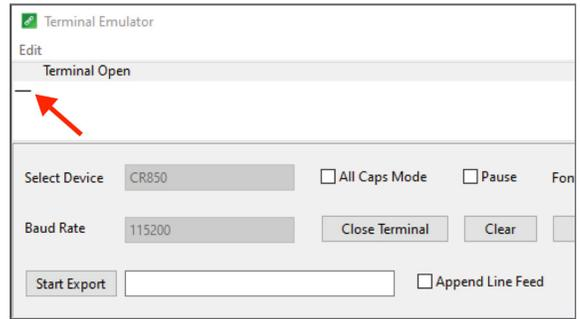

Figure 37 Open Terminal window
- Place the cursor in the Open Terminal Emulator window (Figure 37).